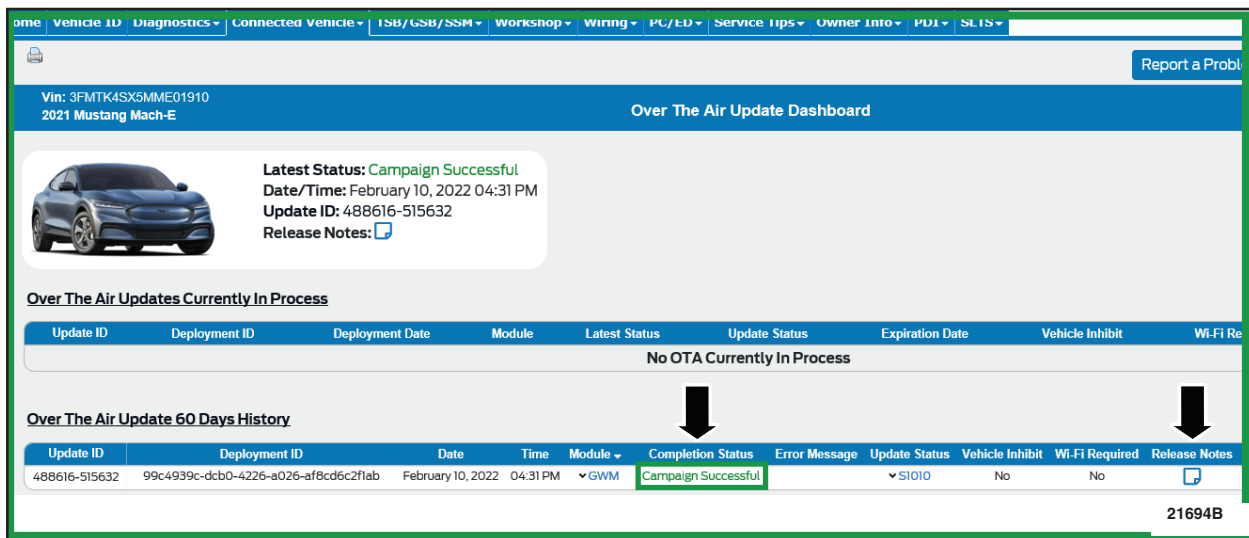

FIGURE 1
- If "Failed" or "Canceled" - Refer to "If IPC module fails to update" above. See Figures 1 and 2.